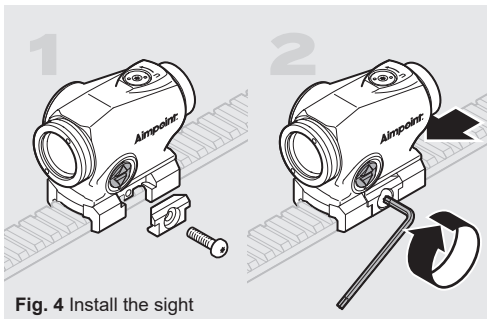
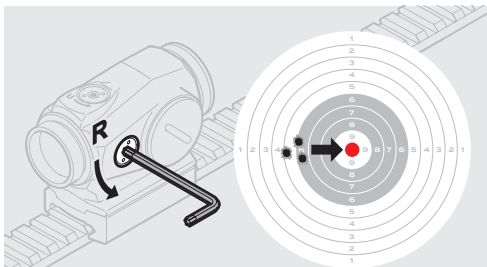

Fig. 4 Install the sight
Fig. 5 Windage adjustments
- b** Use the Torx T10 tool (3) to turn the adjustment screws.
- c** Windage adjustments (see Fig. 4):
- Turn windage adjustment screw (6) counterclockwise to move point of impact to the right (R).
- Turn windage screw (6) clockwise to move point of impact to the left.
- d** Elevation adjustments (see Fig. 5):
- Turn elevation adjustment screw (7) counterclockwise to move point of impact up (U).
- Turn elevation adjustment screw (7) clockwise to move point of impact down.
- f** Ensure the sight is securely installed on the weapon and retighten the screw (12) if necessary.